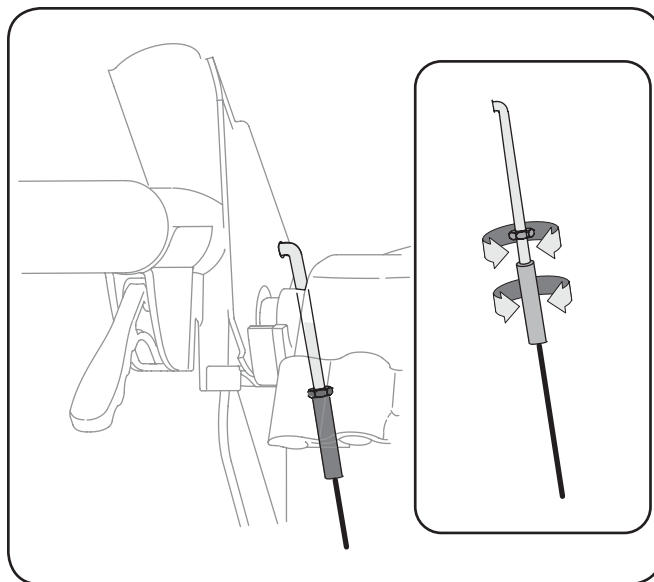

Figure 3-15
8. Thread the ferrule without turning the cable onto the "Z" fitting until there is no slack in the cable. See Fig. 3-15. Do not overtighten the cable. Hold the flats on the ferrule with pliers and tighten the jam nut against the ferrule.